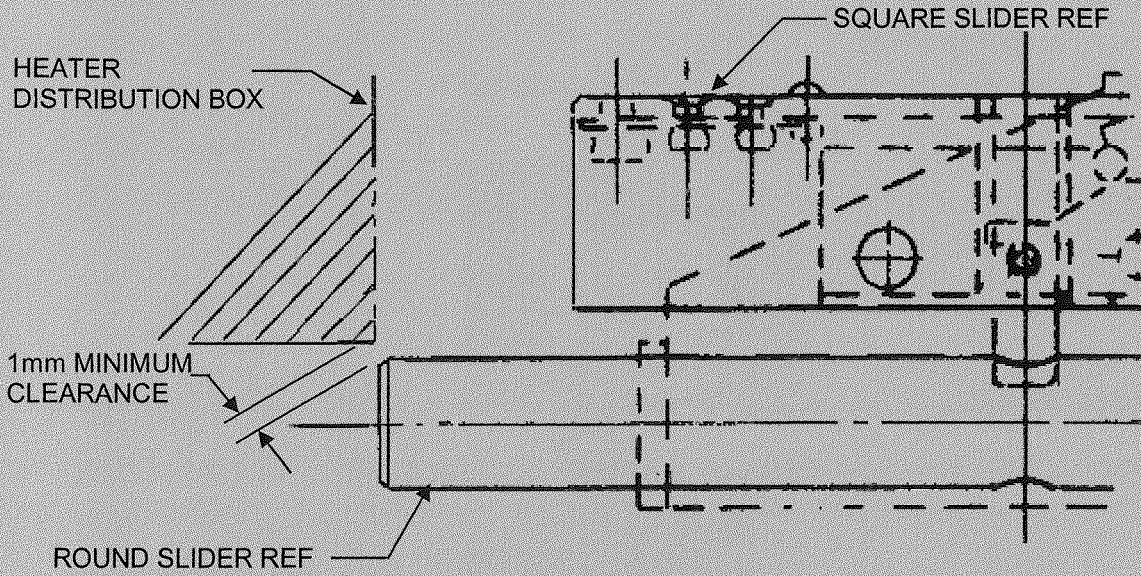

FIGURE 5
14. Ensure clearance of the no. 2 pedal slider to heater box clearance, is greater than 1mm, Figure 5 refers. Inform SACL if clearance is not achievable.